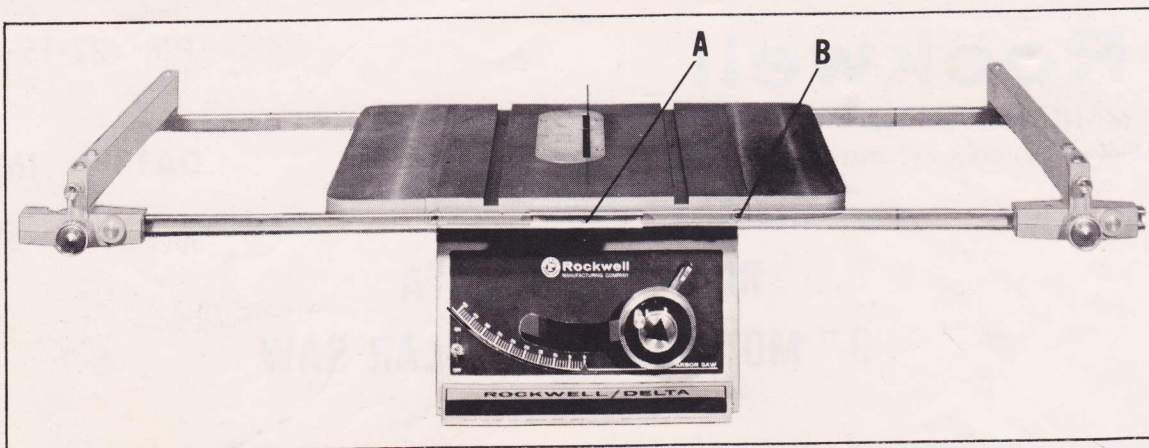

Fig. 2
Fig. 2 illustrates how the guide rails and fence can also be positioned to the left of the saw blade providing 24" rip capacity to the right or left of the blade.
To move the guide rails to the left simply loosen screw (A) and remove screw (B) Fig. 2. Then simply swing the guide rail over to the left and assemble screw (B) to the left hand side of the table and retighten screw (A). Follow the same procedure for the rear guide rail.